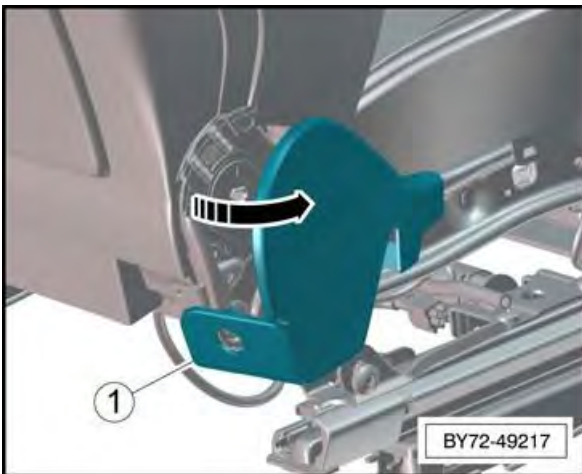

Figure 22
- From the rear edge of the valance, pull outwards—arrow- to release from the clipping points (see Figure 22)